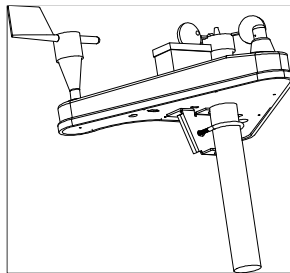

Figure 6 Installation at Pole
2. Place your weather station assembly on top of the mast/pole with the base firmly seated on the top edge of the mast/pole of (see Figure 6)